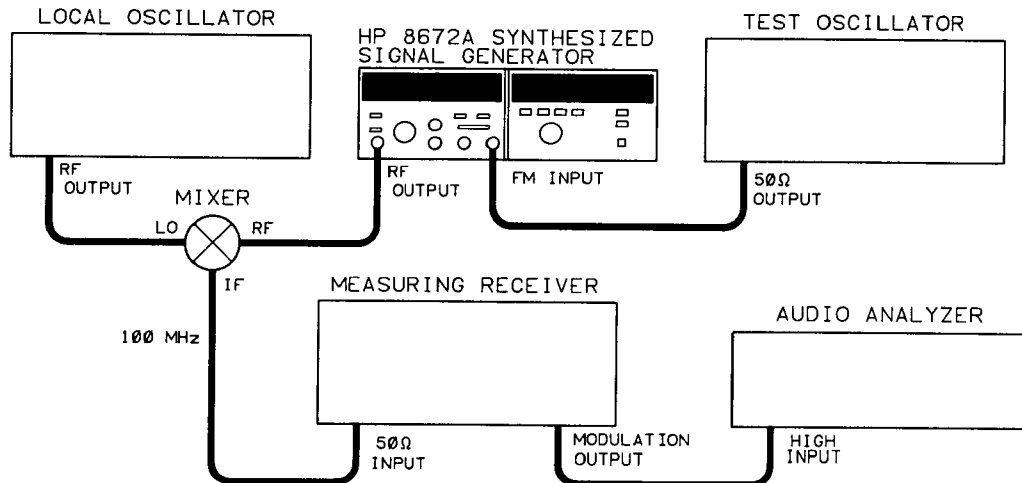

Figure 4-15. FM Harmonic and Non-Harmonic Distortion Test Setup
1. Connect the equipment as shown in Figure 4-15.